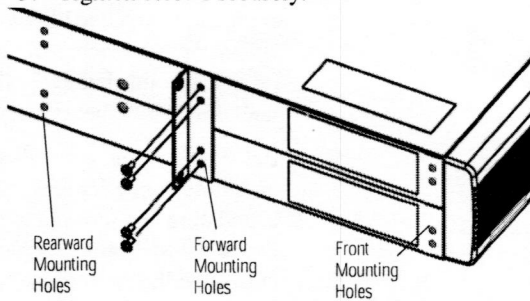
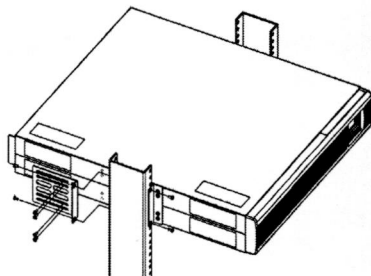
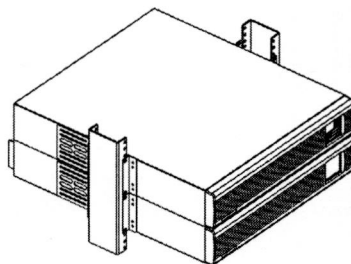

Fig. 5: Attaching the Angled Brackets (700, 1000, and 1500 models)
Fig. 6: Positioning the Unit onto the Center Mount Rails
Fig. 7: Attached Angled Brackets (2000 model)
1. Attach one small angled mounting bracket to each side of the cabinet at the forward mounting holes (see fig. 5) (two angled mounting brackets for each side of the ON2000 Universal Mount. See fig. 7).
2. Place four (4) of the #6-32 screws, provided, through the four round single holes in each bracket (see fig. 5). Use all eight (8) screws for the ON2000 Universal Mount (See fig. 7).
5. Secure the ears of the brackets to the front side of the rack posts with four (4) fasteners (not provided) (see fig 6). The ON2000 Universal Mount uses eight (8) fasteners (not provided). See figure 7.
6. Attach one large angled mounting bracket to each side of the cabinet at the rearward mounting holes (two angled mounting brackets for each side of the ON2000 Universal Mount. See figure 7.).
7. Place four (4) of the #6-32 screws provided through the four long slotted holes in the long side of each bracket. Use all eight (8) #6-32 screws provided for the ON2000 Universal Mount. Do not tighten completely.
8. Slide the rearward mounting brackets forward to contact the rack posts and attach with four (4) fasteners (not provided) - eight (8) fasteners for the ON2000 (see fig 6).